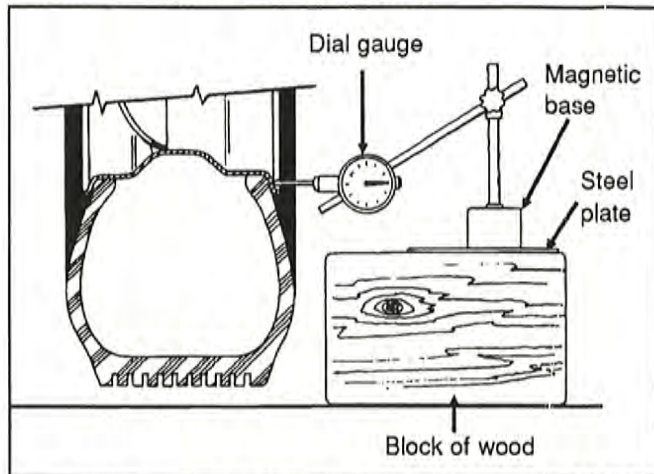

FIG. 2 - Suggested dial gauge installation
2. Check the rim for lateral runout. Install a dial gauge as shown in figure 2, then rotate the wheel one full turn. As the wheel turns, note any variation on the dial gauge.